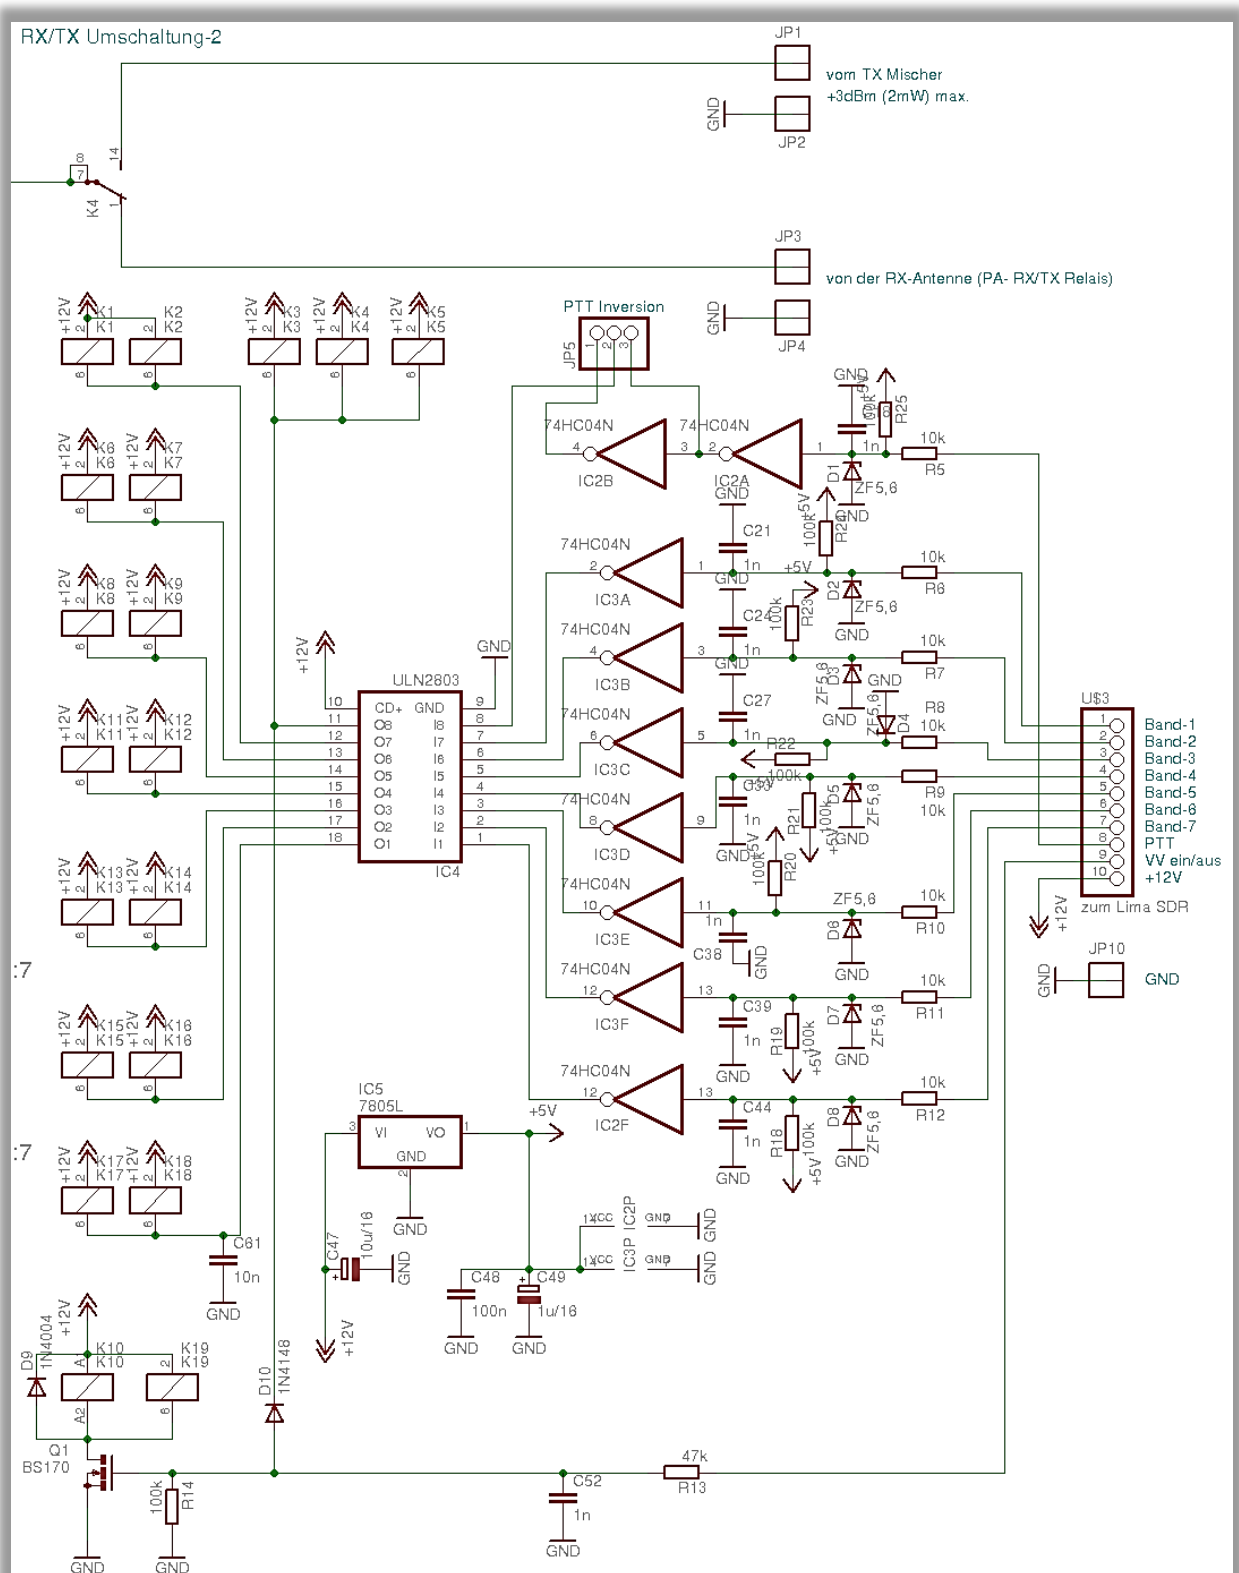

Fig. 23, Relay circuit diagram.
5.8. Relay circuit, detail, fig. 23.